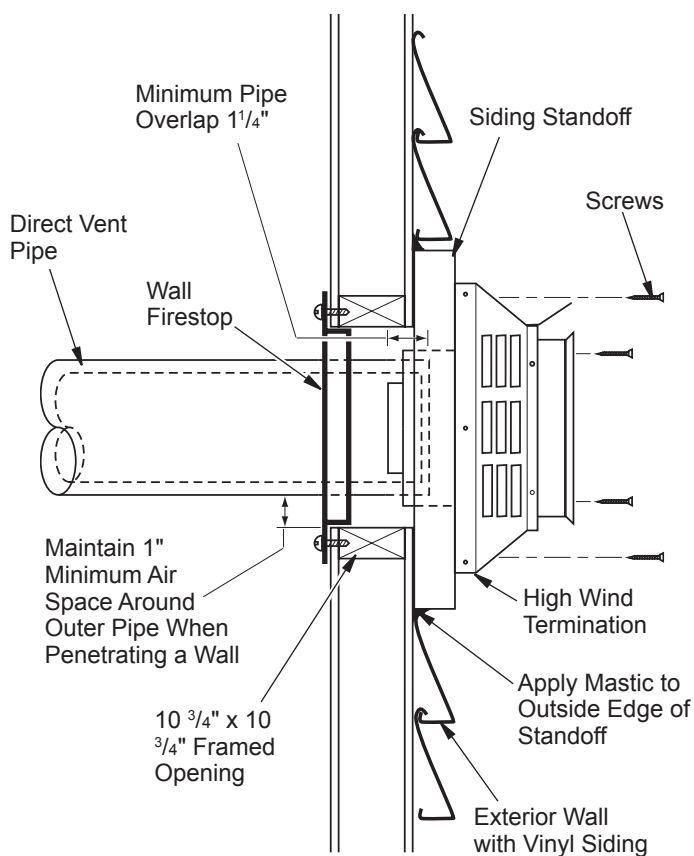

Figure 13 - Typical Horizontal Termination Cap Mounting with Additional Siding Standoff Installed
8. Carefully move fireplace, with vent assembly attached, toward wall and insert vent pipe into horizontal termination. The pipe overlap should be a minimum of 1 1/4" (see Figure 13, page 10).
9. **Combustible Exterior Wall Only:** Slide wall firestop against interior wall surface and attach with screws provided. See Figure 13 for horizontal termination details.